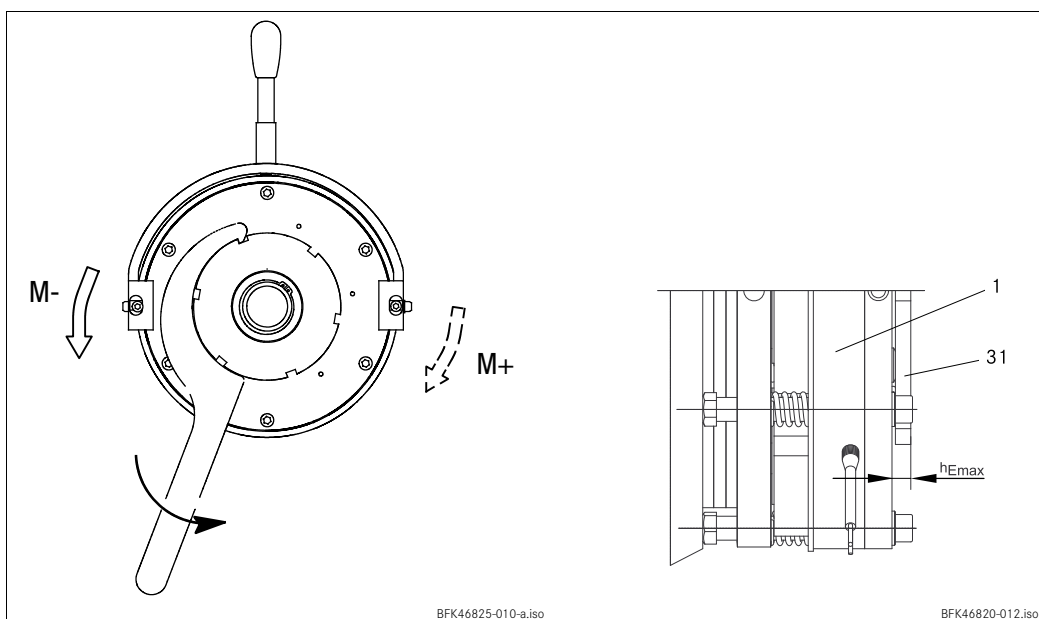

Fig. 18 Braking torque adjustment
1. Pull the lever (Fig. 18) with approx. 250 N until the resistance increases strongly.